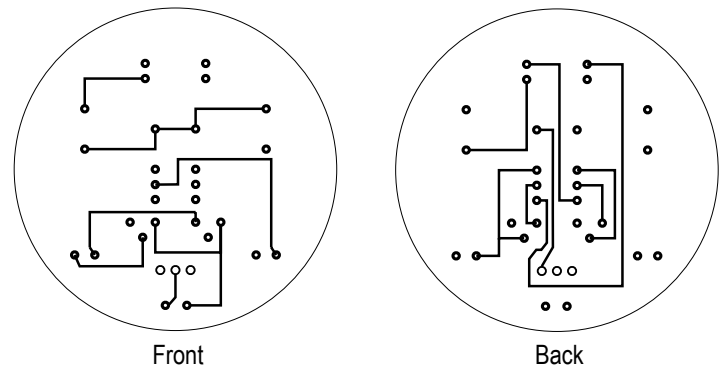

Figure 3 – Both sides of the circuit board have traces, copper strips that carry electricity from one component to another creating a circuit.
- The circuit has one side with strips of shiny metal called traces. The other side has traces and a picture of a robot. Place the components through the picture side of the circuit board (Figure 3).